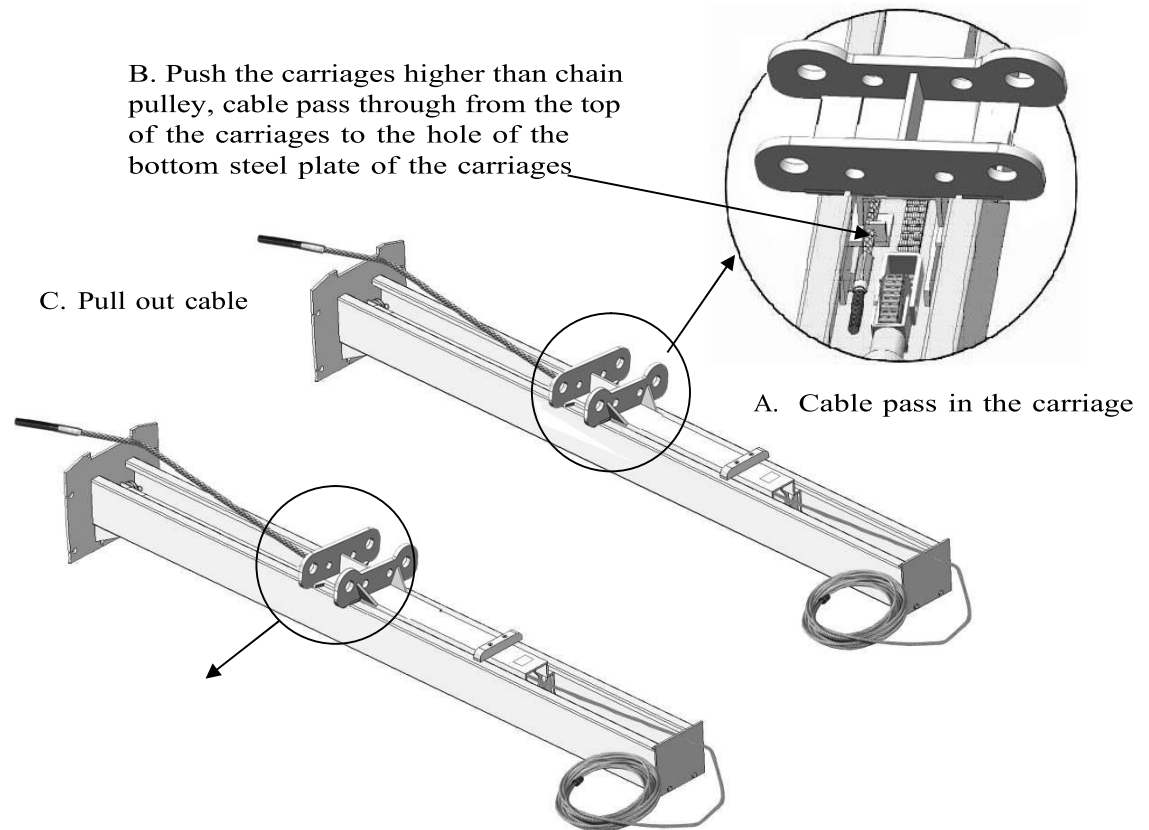

Fig. 12
1. Put down columns and then push the carriages higher than chain pulley (See Fig. 12).